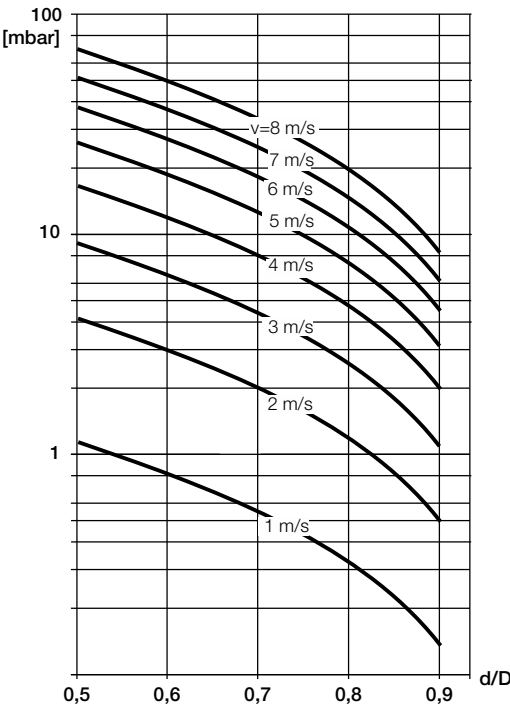

Fig. 4: Flow rate nomogram for pressure drop calculations for flange transition piece with $\alpha/2 = 8^\circ$
2. Determine the flow velocity based on the flow rate nomogram (Fig. 4).
3. Read the pressure drop on the Y-axis in Fig. 4.